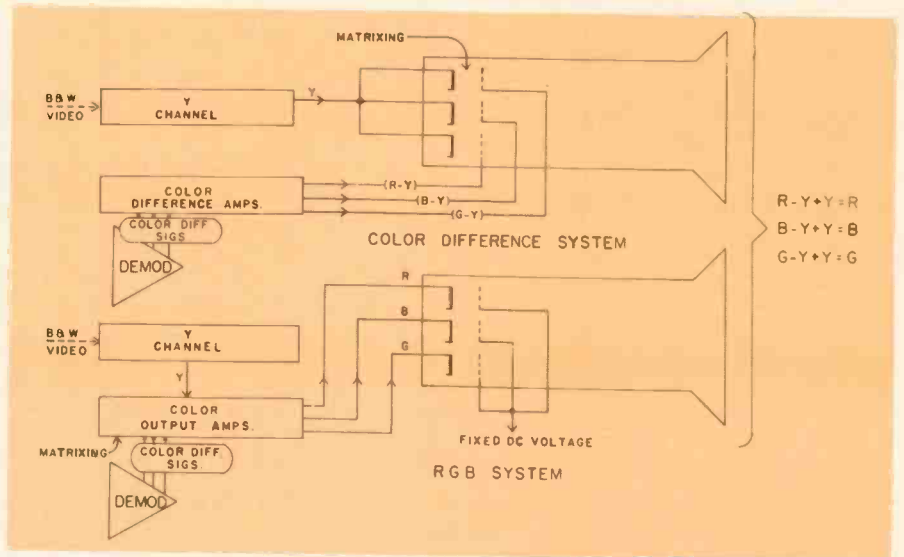

Fig. 2—Diagram showing the matrixing principle of the color difference system and the RGB system.
The (Y) signal is matrixed with the color difference signals of (R-Y), (G-Y) and (B-Y) in the picture tube. The matrixing principle of both systems is shown in Fig. 2.